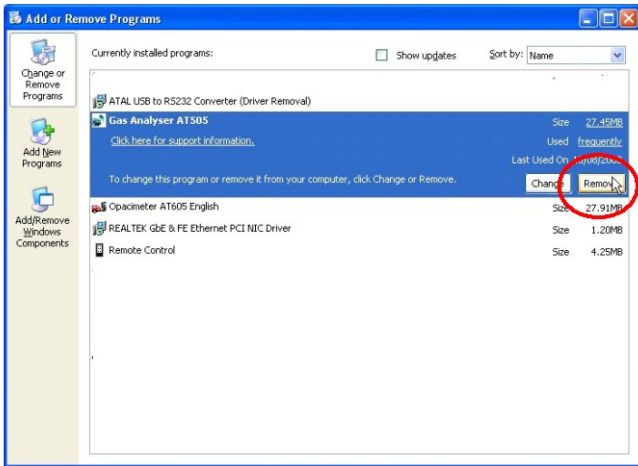
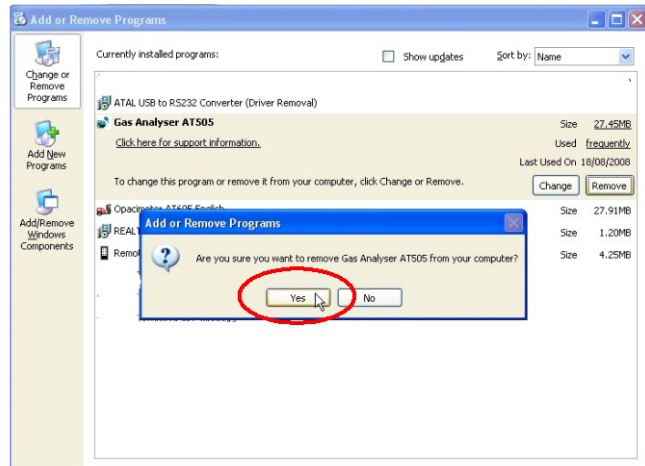

Fig. 9 – Removing Gas Analyser program by selecting the Add or Remove Programs in Control Panel
Fig. 10 – Confirm that you really want to remove the program
- Click on Add or Remove Programs in the Control Panel. Then click on **"Remove"** (Fig. 9). Confirm this choice in the displayed dialog box (see Fig. 10) and the program will be removed promptly and without further warning.